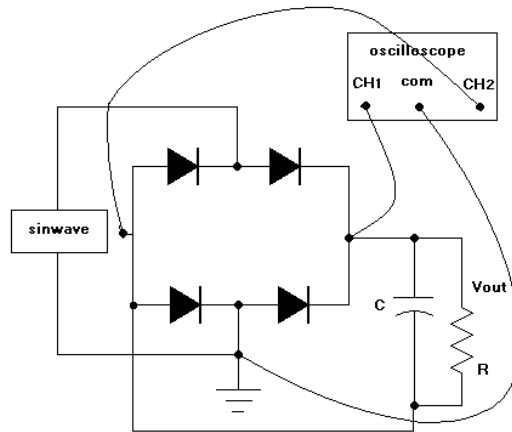

Figure 5.6
- Connect the circuit in figure 5.6.
- Connect the oscilloscope as shown in figure 5.6 then invert channel 2.
9. Sketch the output waveform of the circuit in figure 5.6?